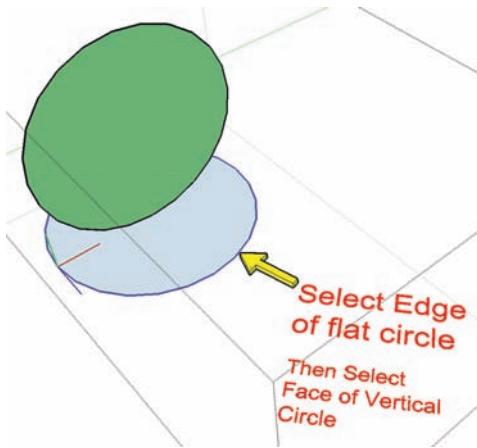

Fig. 8-15: Select the edge of the horizontal surface, activate Follow Me, and select the face of the vertical surface.
7. With the bottom circle in place, while still in the component instance, select the edge of the horizontal circle, activate the Follow Me tool, and select the face of the vertical circle (Fig. 8-15).